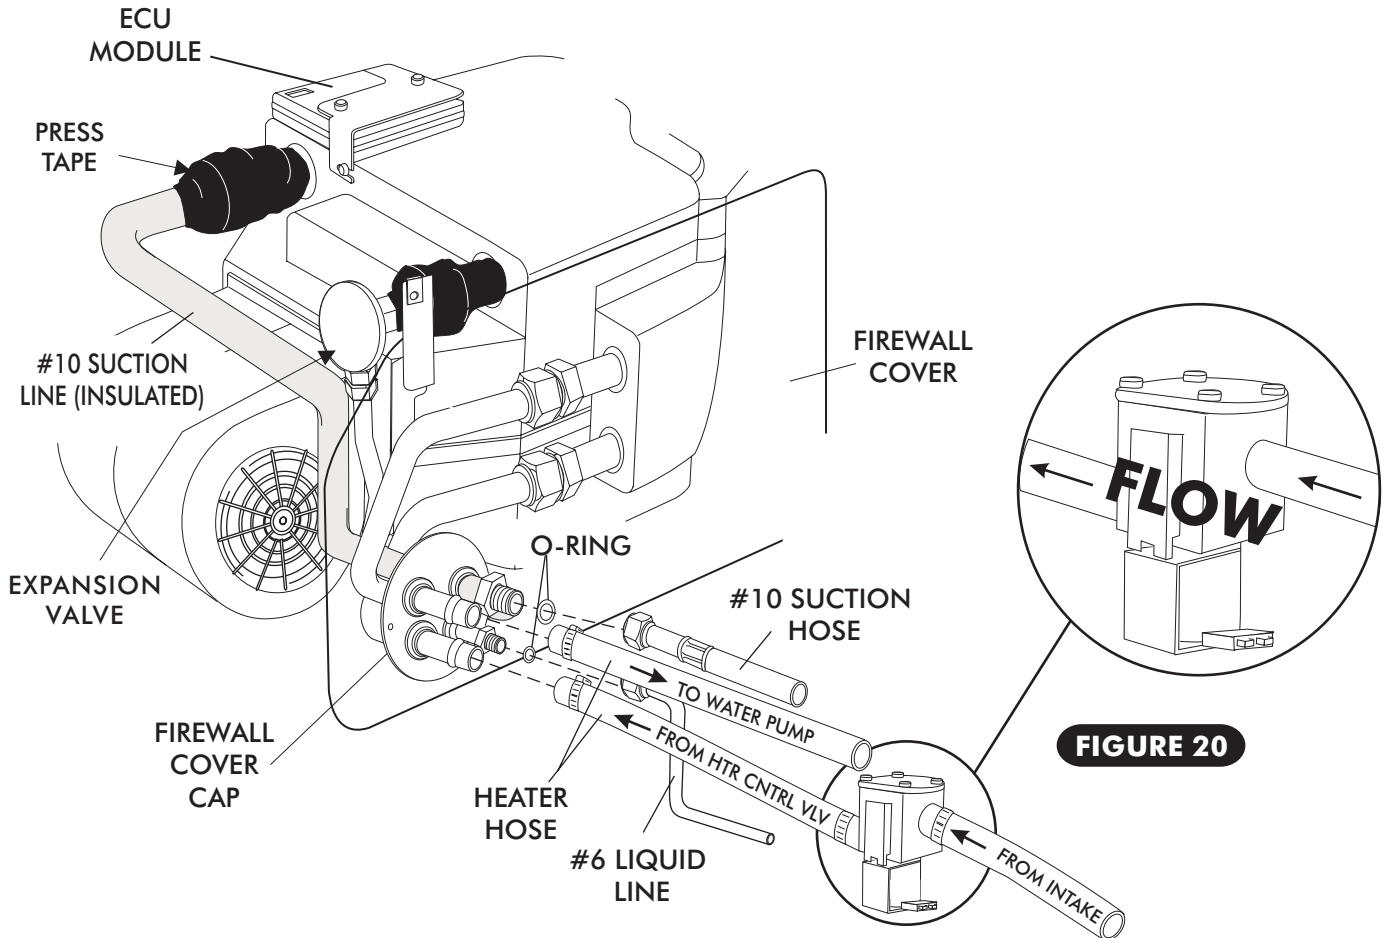

FIGURE 20
- ❑ ROUTE A PIECE OF HEATER HOSE FROM THE WATER PUMP TO THE HEATER LINE COMING THROUGH THE FIREWALL AS SHOWN IN FIGURES 20, PAGE 20. SECURE USING HOSE CLAMPS.
- ❑ ROUTE A PIECE OF HEATER HOSE FROM THE INTAKE TO THE HEATER LINE COMING THROUGH THE FIREWALL AS SHOWN IN FIGURES 20, PAGE 20. NOTE: INSTALL HEATER CONTROL VALVE IN-LINE WITH INTAKE MANIFOLD (PRESSURE SIDE) HEATER HOSE, SECURE USING HOSE CLAMPS AS SHOWN IN FIGURE 20 ON PAGE 20. **NOTE PROPER FLOW DIRECTION.**